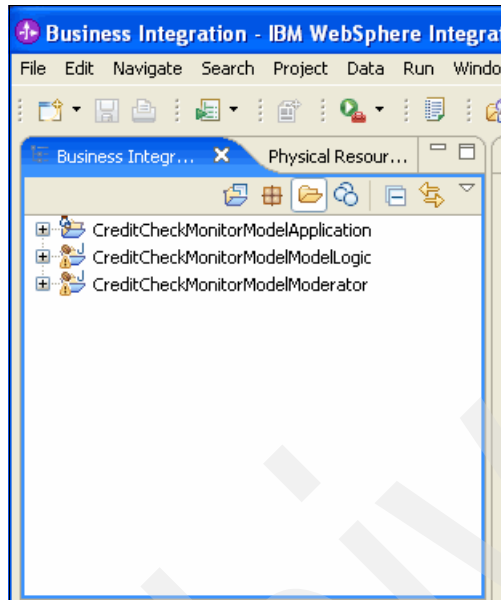

Figure 10-78 Business Integration perspective of the resulting projects
3. To see the projects that are generated, change to either the Business Integration perspective (Figure 10-78) or the J2EE perspective.